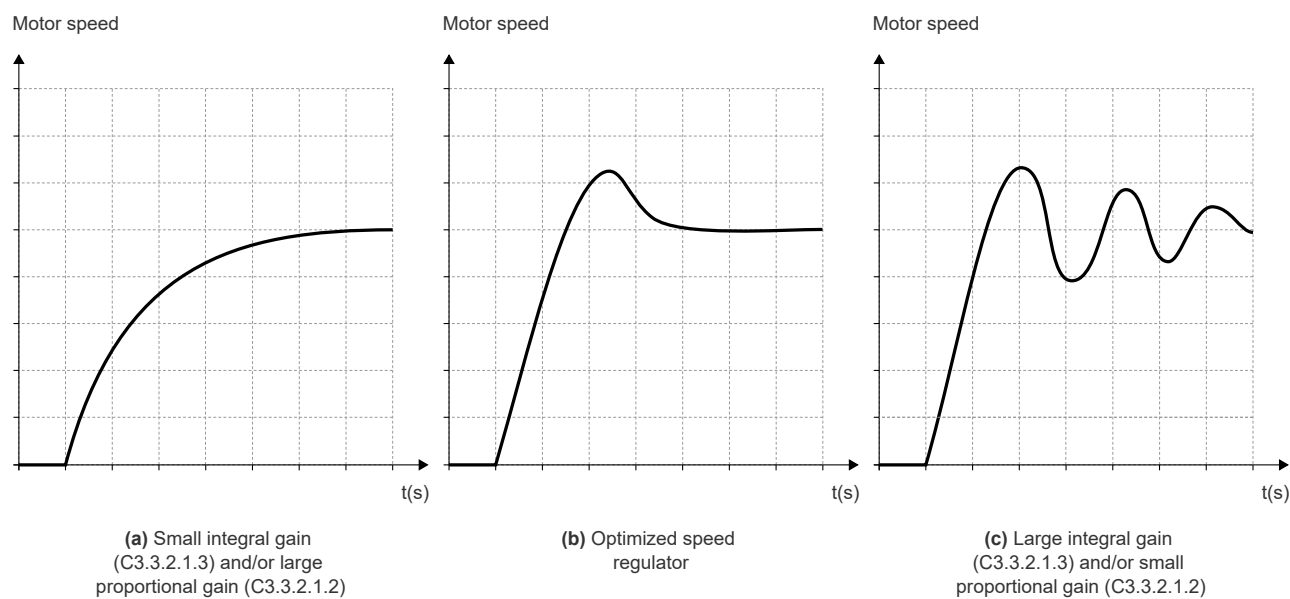

Figure 9.8: (a), (b) and (c) - Types of speed regulator response
6. Check among the options in Figure 9.8 which waveform best represents the read signal.
7. Set C3.3.2.1.2 and C3.3.2.1.3 according to the type of response shown in Figure 9.8.